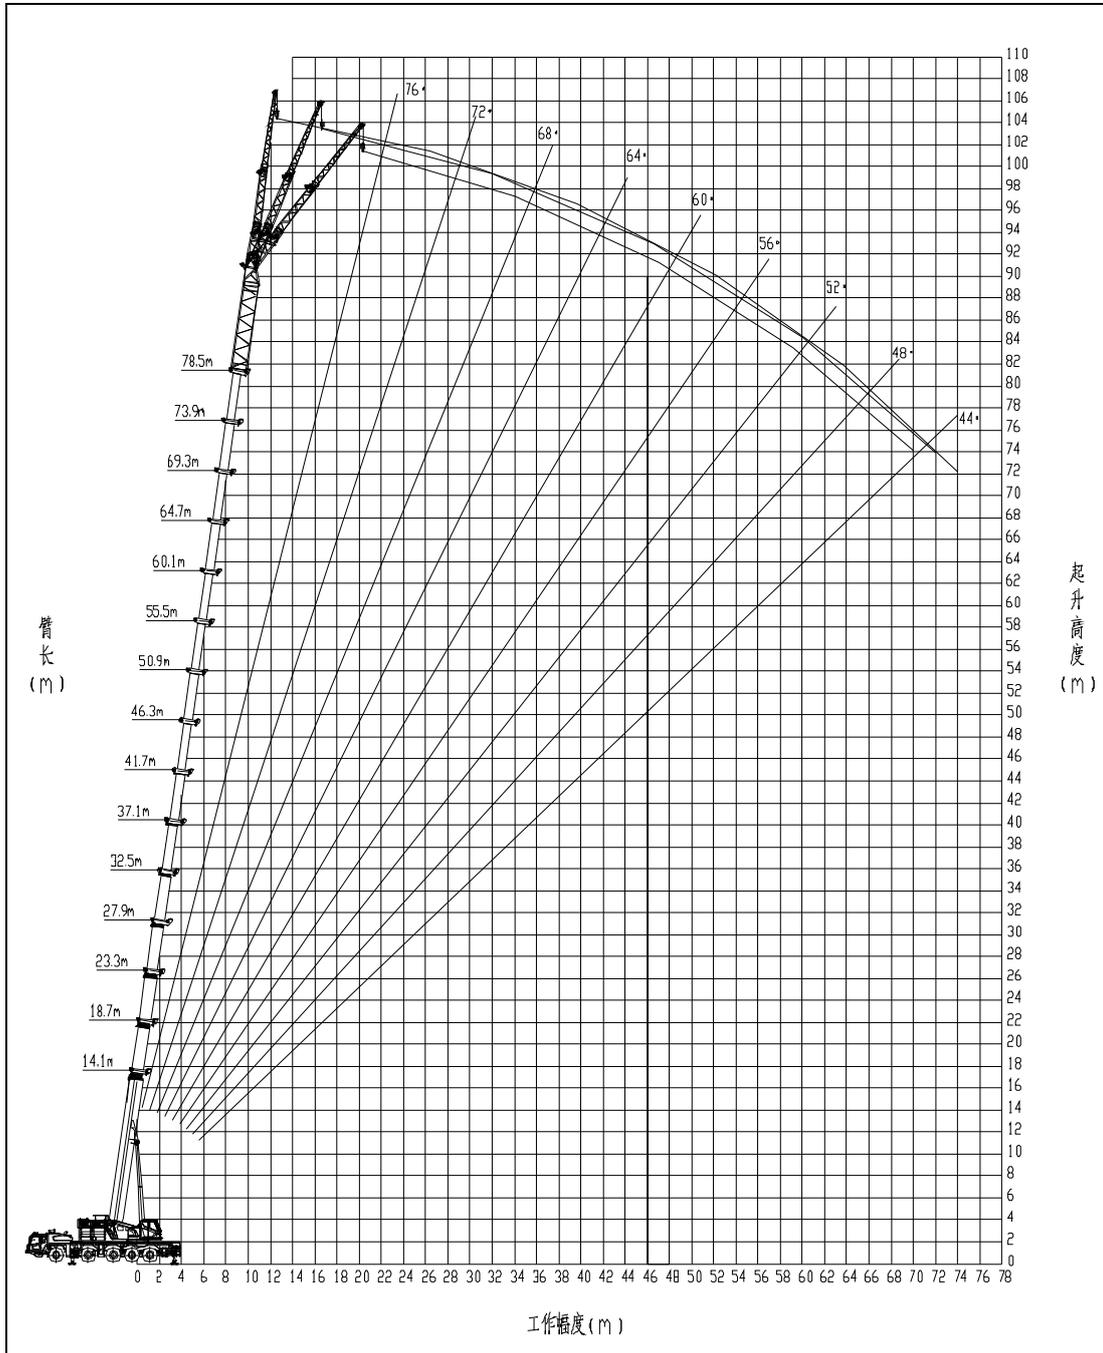

Figure 1-21 78.5 m main boom + 8 m extension + jib variant 2 (17.5 m)
b) For the lifting height chart for 78.5 m main boom + 8 m extension + jib variant 2 (17.5 m), refer to Figure 1-21.